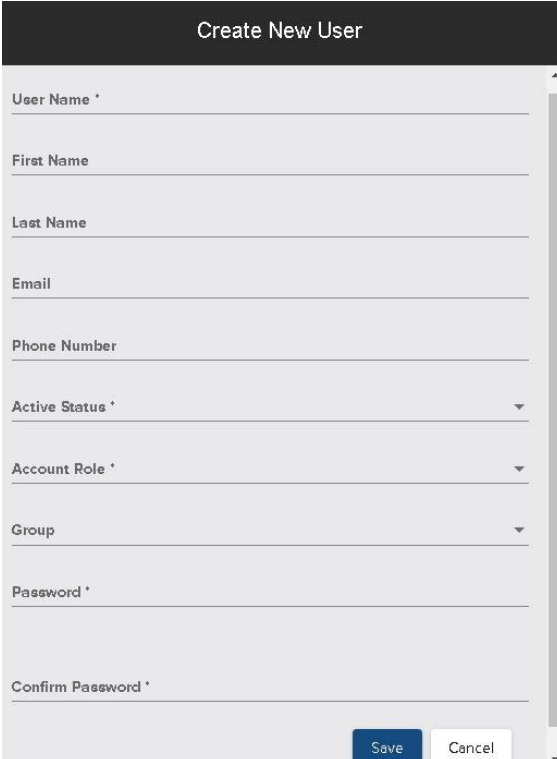

Figure 93: Add Users tab under Administration
2. The **Create New User** window will appear (see Figure 93); fill out the required fields (indicated with *).